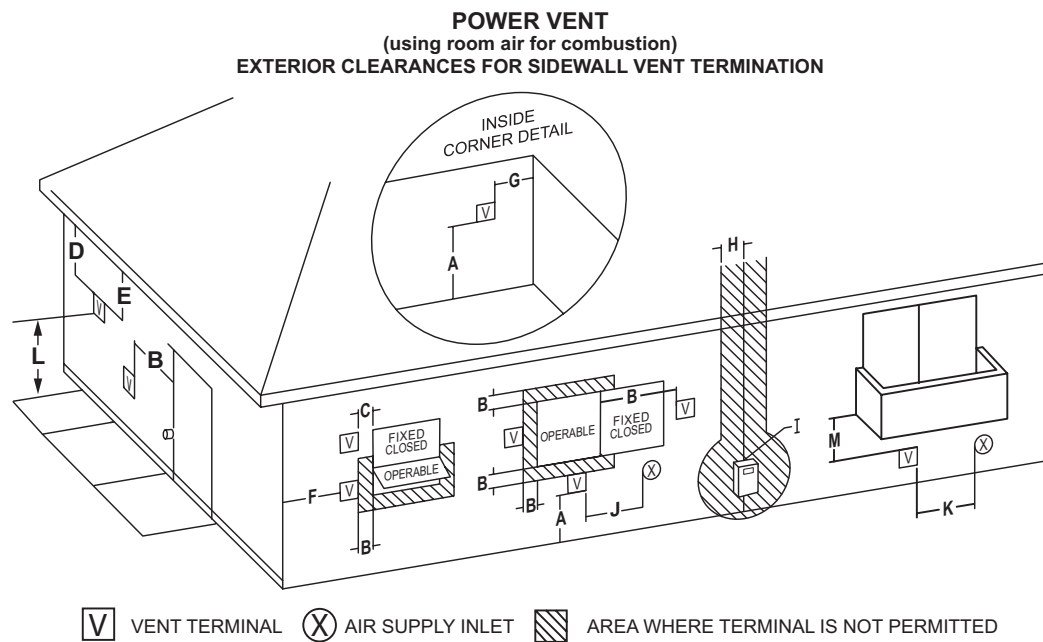
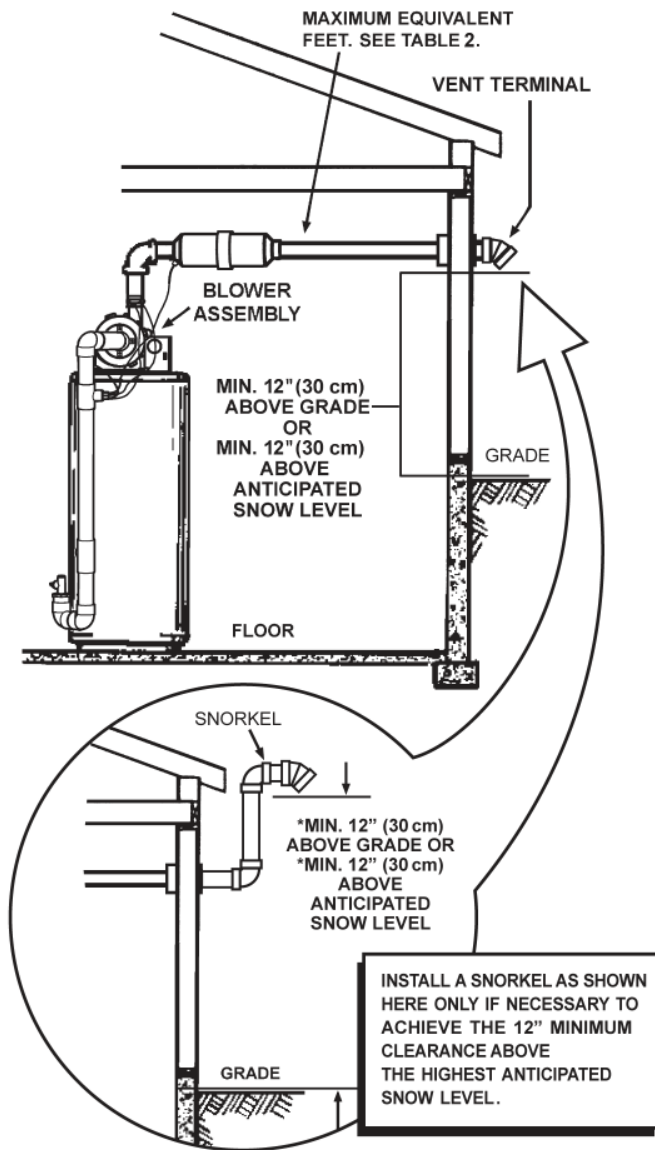

FIGURE 15.
FIGURE 20
The first step is to determine where the vent pipe will terminate. See Figures 15, 20 and 21. The vent may terminate through a sidewall as shown in Figure 20 or through the roof as shown in Figure 21.
in Figure 15.
If necessary to achieve the 12 inches (30 cm) minimum clearance above the highest anticipated snow level, install a snorkel as shown in bottom portion of Figure 20.
1. Vent Termination must extend a minimum of 12 inches (30 cm) above roof or 12 inches (30 cm) above the anticipated snow level to prevent blockage of the vent termination, as shown in Figures 20 and 21.